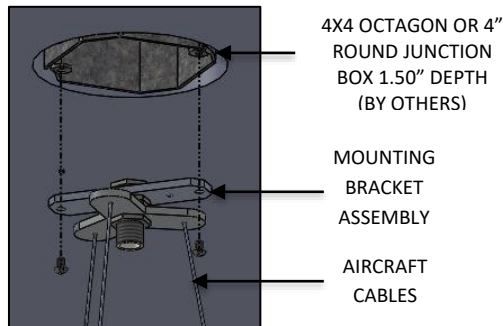

FIG. 9 – MOUNTING BRACKET
3. Secure the MOUNTING BRACKET ASSEMBLY along with AIRCRAFT CABLES to the JUNCTION BOX (by others) as shown below in FIG. 9.